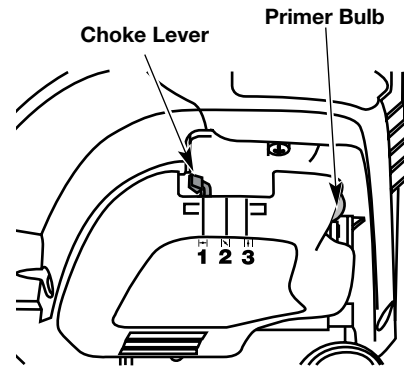

Fig. 20
4. Fully press and release the primer bulb 10 times, slowly. Some amount of **fuel should be visible in the primer bulb and fuel lines** (Fig. 20). If you can't see fuel in the bulb, press and release the bulb as many times as it takes before you can see fuel in it.
5. Place the choke lever in **Position 1** (Fig. 20).
7. Place the choke lever in **Position 2** (Fig. 20).
10. Place the choke lever in **Position 3** (Fig. 20). The unit is ready for use.